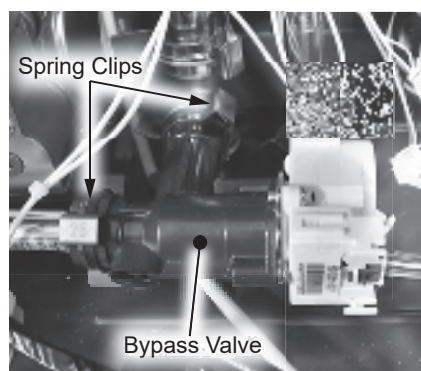

Figure 179 - Bypass valve location
17 Locate the bypass valve at the bottom front side of the water heater as shown in Figure 179. Disconnect the wiring harness from the valve.
18 Remove the two (2) spring clips (size 25) securing the bypass valve to the piping system. Remove the bypass valve from pipe connections. Place components aside in a safe place for reinstallation. See Figure 179.